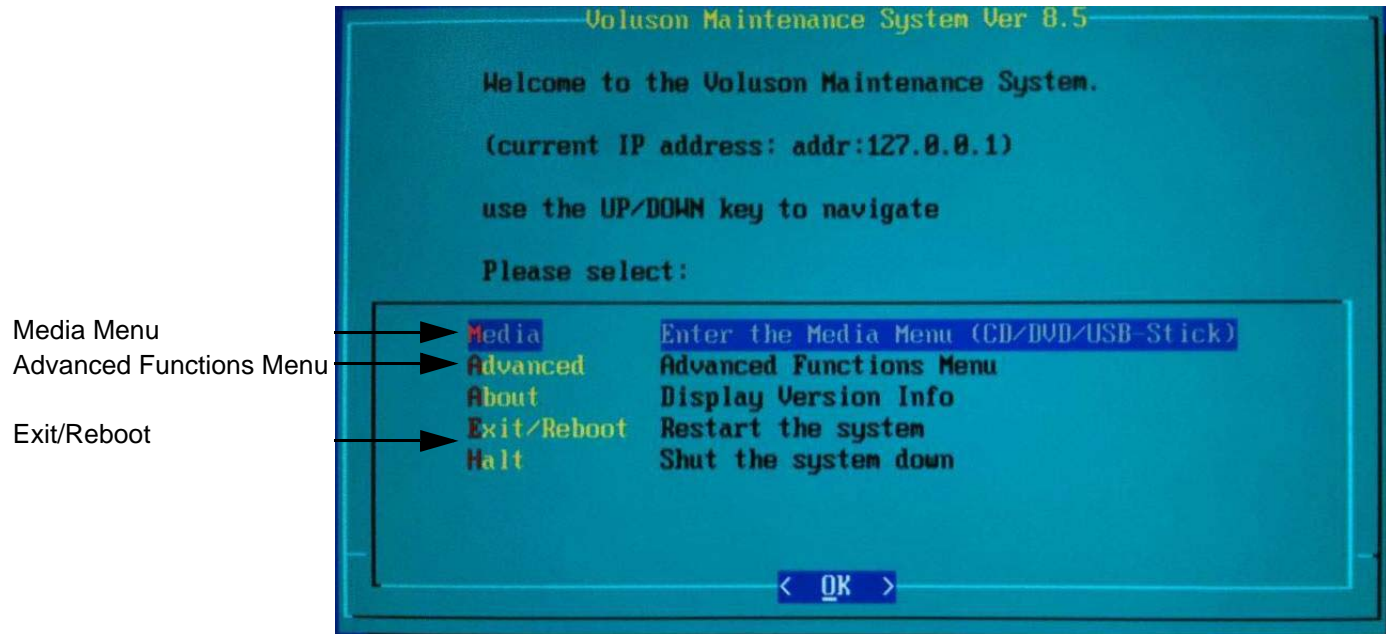

Figure 5-38 Voluson Maintenance System - Main menu
- 3.) In the “Voluson Maintenance System” main menu (Figure 5-38) select [Media].